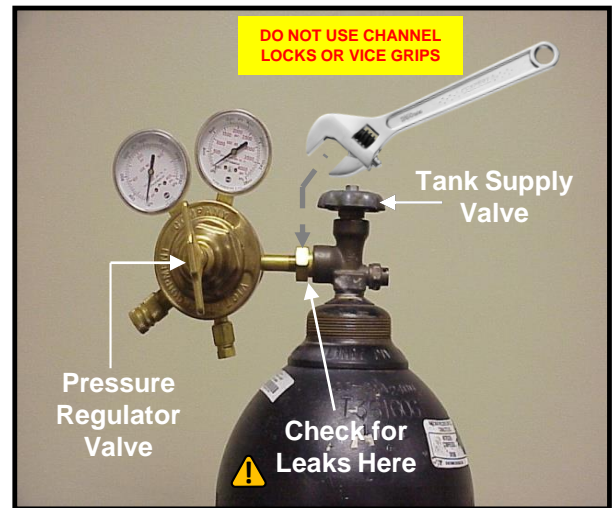

Figure 9
7.2 Thread the Pressure Regulator fitting into the Tank valve housing and tighten with a large adjustable wrench. **See Fig. 9.**